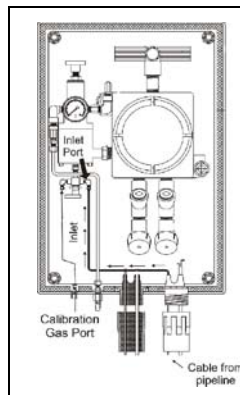

Figure 3
- 2.2.4 Use tubing to connect the incoming cable from the pipeline to the inlet port of the Heated Regulator (see Figure 3).
- 2.3.1 When it is necessary to calibrate the system, connect the calibration gas supply to the calibration port (see Figure 3).